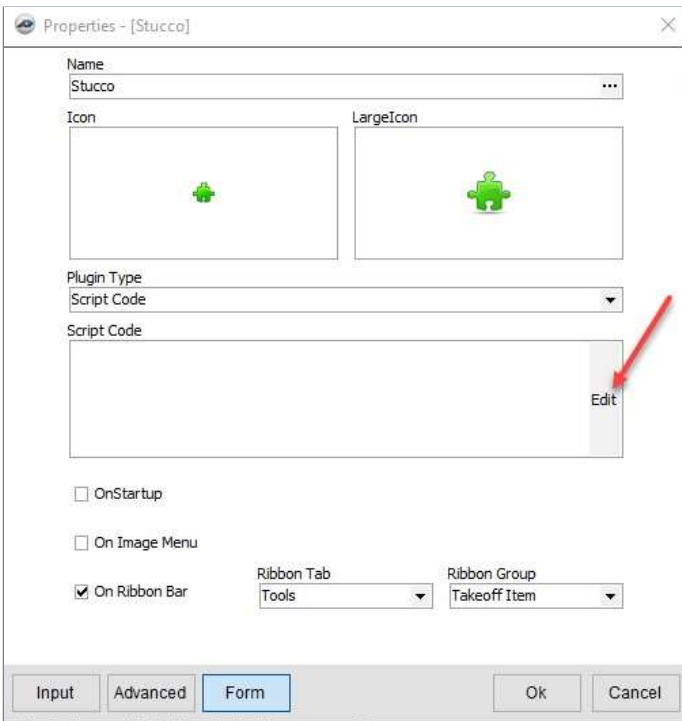

Figure 10
10. Double-click on the **Stucco** plugin in the **Tools Manager** window to re-open the **Properties - [Stucco]** window (Figure 10). Click on Edit.